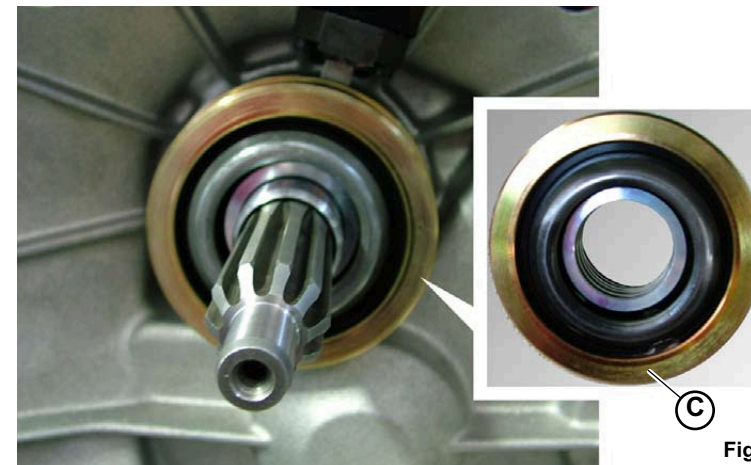

Fig.2
2. unscrew the anti-rotation bar hold and remove the clutch thrust bearing (**C-Fig.2**). Be careful not to lose the springs;